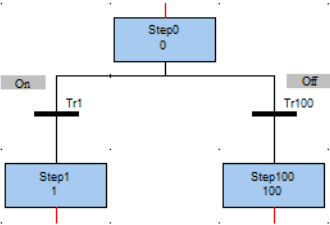

Figure 10. Sequence2D Process Flow
**Sequence2D** consists of steps and transitions which follows a two-line chain as shown in Figure 10.